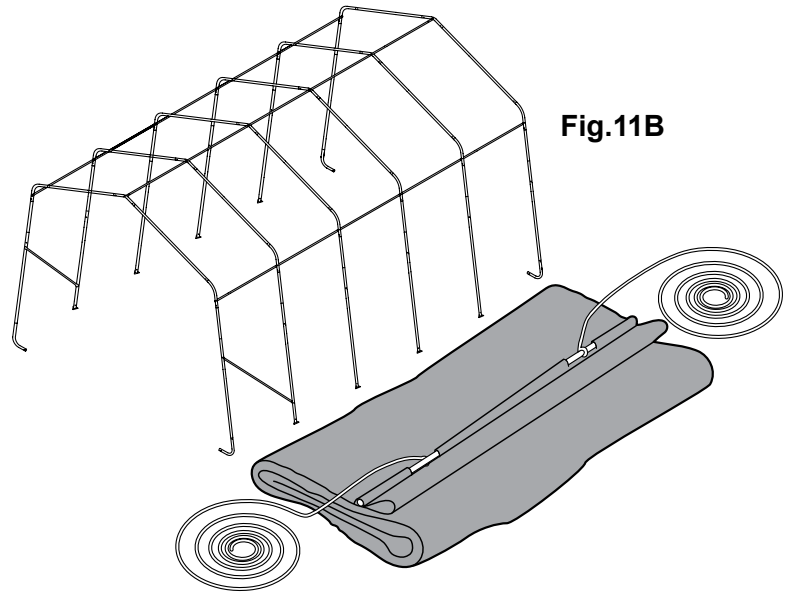

Fig.11B
**B.** Fold over the side closest to the frame so the pipe pocket is now accessible. Insert a cover pipe at the first middle rib from the front and the first middle rib from the rear so that it is inserted in the pipe pocket on both ends of the pipe but the center of the pipe is exposed. For long buildings it may be necessary to use additional pipes in the middle. Fig. 11B.